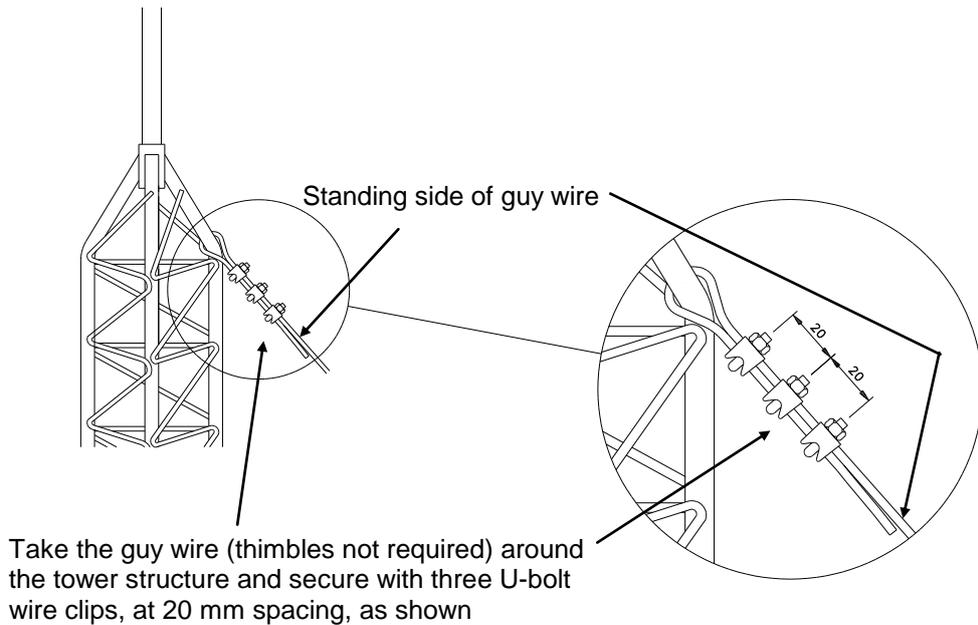
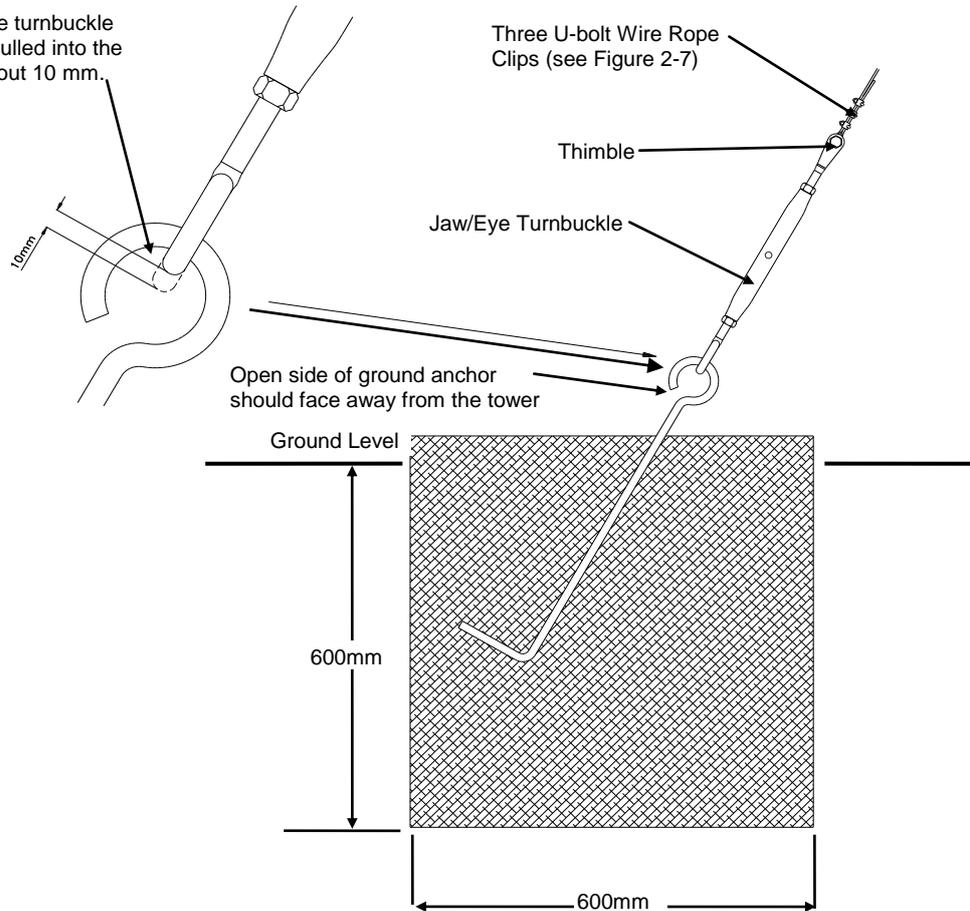

Figure 2-7 Installation of Guy Wires to Tower
Figure 2-9 Installation of the Guy Wires to the Ground Anchors
2. Attach the guy wires to the top tower section, taking each guy wire in turn around the structure and fitting it securely using *three* U-bolts for each wire, spaced as shown in Figure 2-7, below. Note the position of the ‘standing’ side of the guy wire.
**NOTE** All U-bolt Rope Clips must be fitted as shown in Figure 2-7, with three U-bolts at approximately 20 mm centres. The U-bolts should be on the short side of the guy wire and the nuts on the standing side.
Ensure that you have all parts of the guying kit to hand. Unscrew the jaw and eye bolts from each turnbuckle until about 25 mm of thread extends through the turnbuckle body. Attach the jaw end of the turnbuckles to the anchors, and, while holding the tower vertical, attach the guy wires to the eye end of the turnbuckles using one thimble and three U-bolts per guy wire as shown in Figure 2-7. The U-bolts should be fitted as shown, at a spacing of 20 mm, with the nuts on the 'live' side of the guy wire. Tighten the turnbuckles until it is *just* possible to pull the shackle by hand approximately 10 mm into the eye bolt, as shown in Figure 2-9.